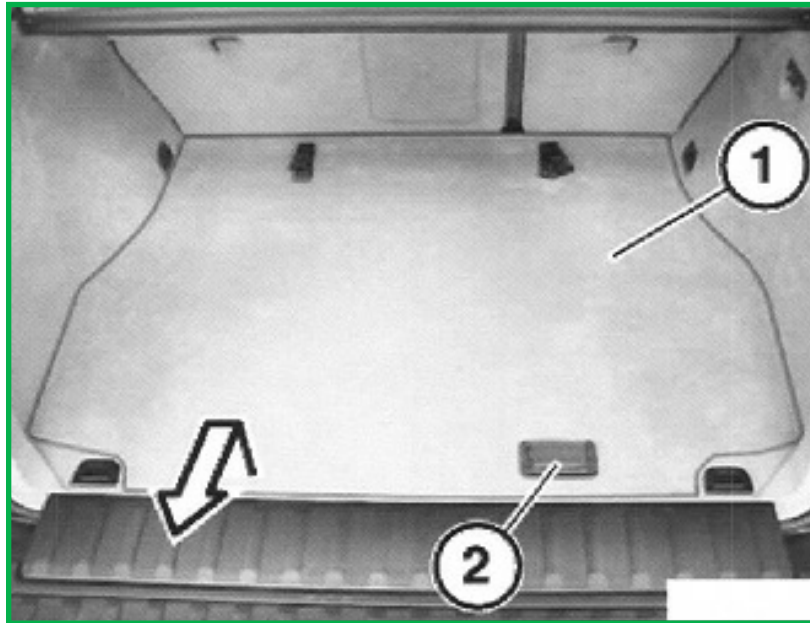

FIGURE 16
1. Open trunk lid, unlock luggage compartment floor trim panel (1) at handle (2) and remove. (Figure 16)